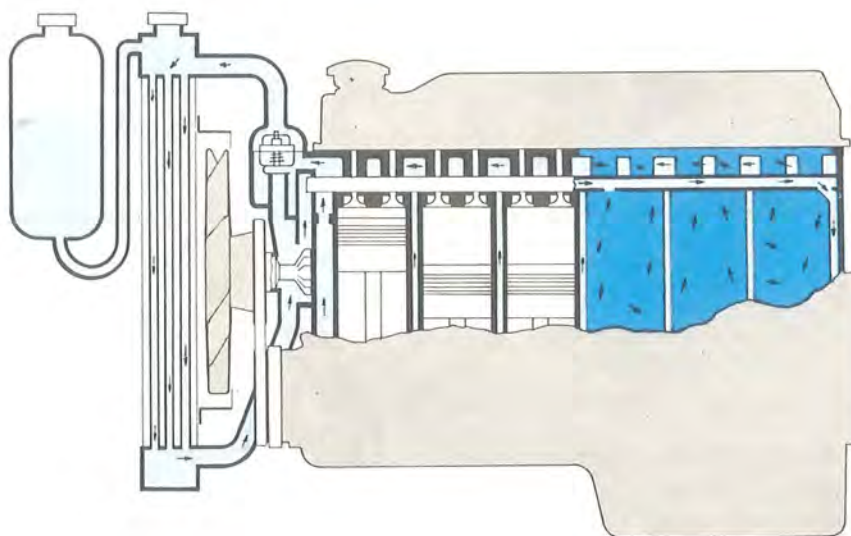
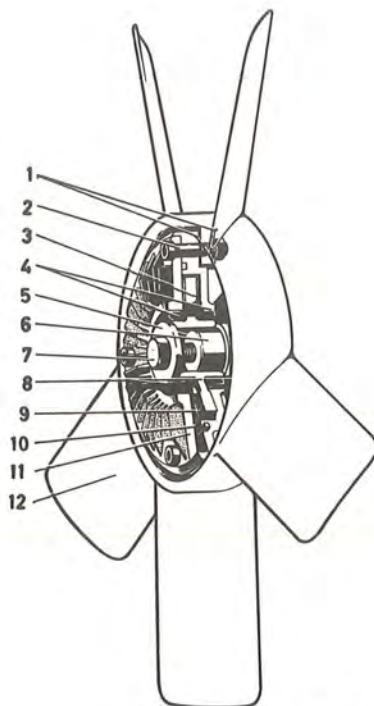
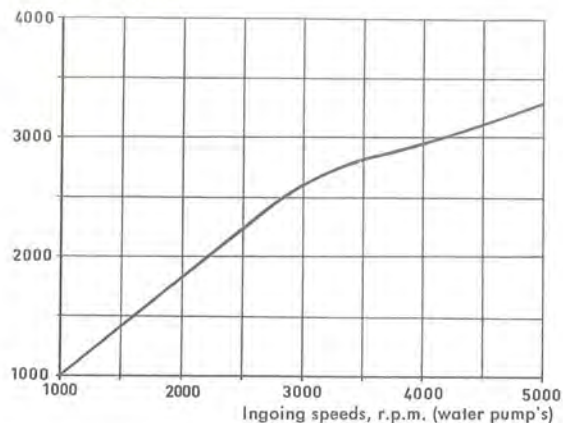

Fig. 2-75. Sealed cooling system
Fig. 2-76. Fan coupling
Fig. 2-81. Curve for fan coupling slip
The engine is water-cooled and the cooling system is of the sealed type, see Fig. 2-75. A fan casing is mounted asymmetrically to keep down the noise a so-called slip-coupling type (see Fig. 2-76) the function of which is to ensure that the fan blades do not exceed a certain speed even if the engine speed is exceeded. See Fig. 2-81. The five fan blades are mounted asymmetrically to keep down the noise level. The fan coupling consists of the casing (11, Fig. 2-76) in which the plastic fan blades (12) are secured with the bolt (2). The casing (11) has two halves which, however, cannot be separated for repairs, the fan coupling then being replaced complete. The hub (8) has a light fit on the water pump flange (6) and is locked by means of the centre bolt (7). The hub is
provided with a slip disc of friction material (9) surrounded by oil. During idling and at low speeds, the slipping is insignificant, so that the fan provides an air current for satisfactory cooling. When the ingoing speed (that of the water pump) exceeds about 2600 r.p.m., the slipping increases (see Fig. 2-81). With this arrangement, the fan speed should never exceed about 3000—3500 r.p.m. The fan noise output would then be low compared with a fan which runs at the same high speeds as the water pump. Compared with this latter type of fan, the output loss will be less for the slip-coupling type fan.
The fan coupling function can be checked with a stroboscope with variable blinking frequency. Make a mark on the fan and one on the water pump pulley. Find out the speed relationship between fan and pulley by means of the stroboscope. The fan speed should follow the speed of the water pump according to the curve given in Fig. 2-81.